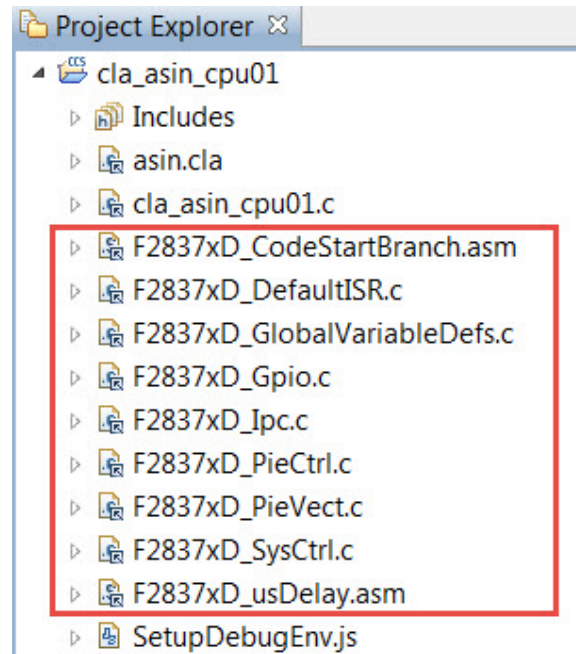

Figure 4.5: Common source files for each CLA example
- Import the exp2 project into your workspace (see Fig. 4.5).